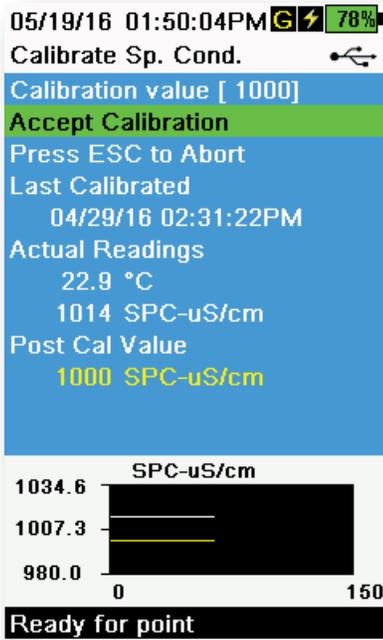

Figure 45 Calibrate specific conductance
8. Observe the actual measurement readings for stability (white line on graph shows no significant change for 40 seconds), then select **Accept Calibration** (Figure 45). “Calibration successful!” will be displayed in the message area.